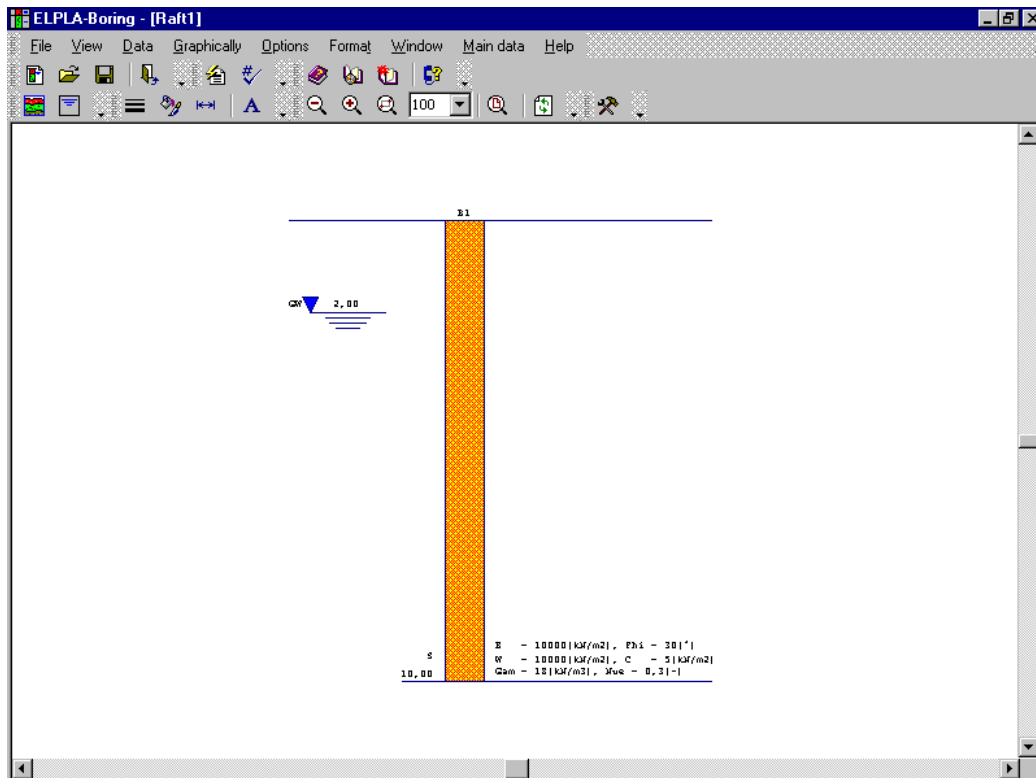
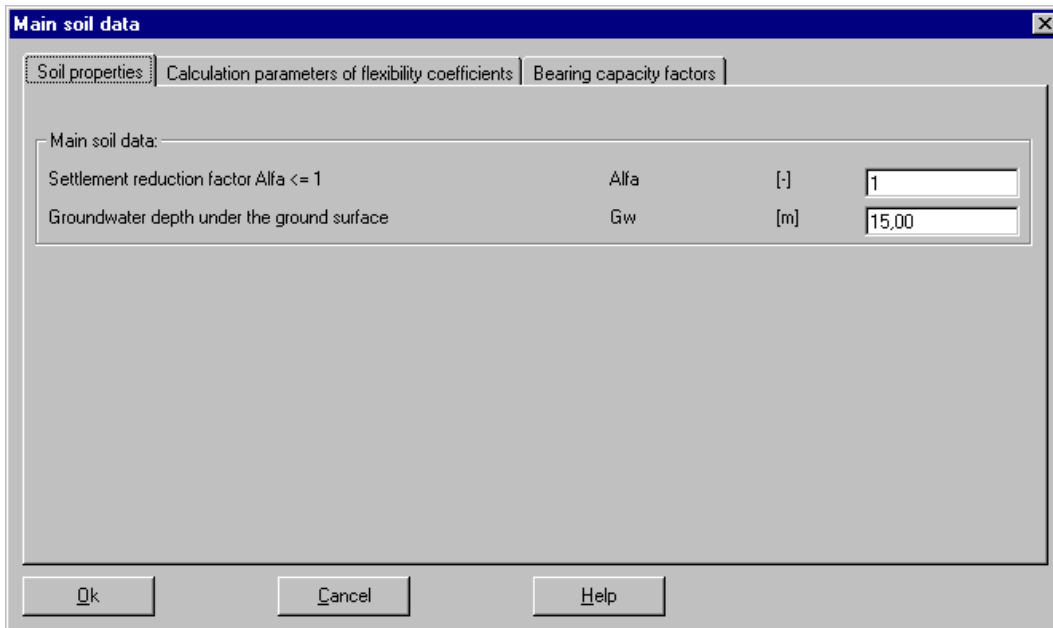

Figure 3-13 *ELPLA-Boring* sub program with a default-boring log
Figure 3-19 "Main soil data" dialog group box
To define the soil properties, choose "Soil properties" command from "Data" menu of *ELPLA-Data* window. The following sub program in Figure 3-13 appears with a default-boring log.
- Choose "Main soil data" from "Data" menu in Figure 3-13. The following dialog group box in Figure 3-19 appears
- In this dialog group box enter the settlement reduction factor α [-], *Poisson's* ratio of the soil ν_s [-] and the groundwater depth under the ground surface G_w [m] as indicated in Figure 3-19. Note that the groundwater depth under the ground surface was typed in the corresponding edit box because this value has been already defined graphically
- Click "OK" button in the "Main soil data" dialog group box in Figure 3-19